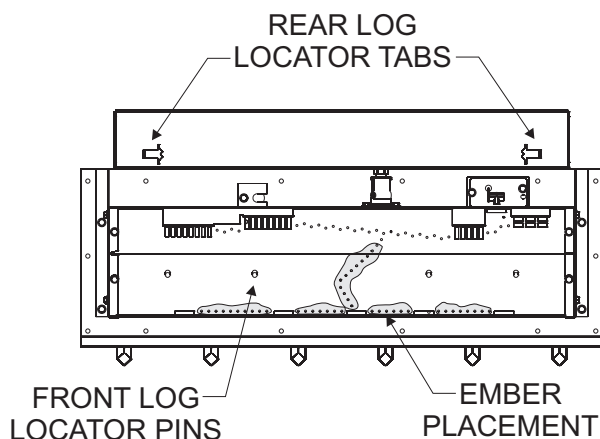
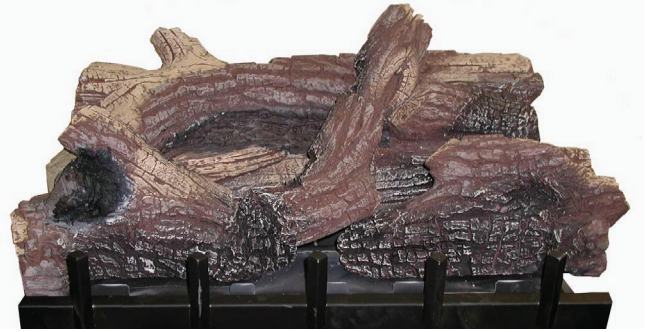
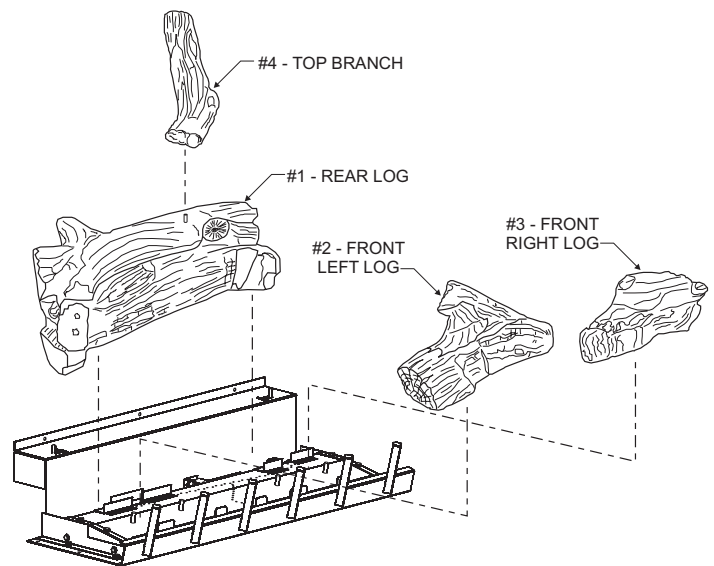

Figure 18
Figure 19
Figure 20
The positioning of logs is critical to safe and clean operation of this fireplace. Sooting and other problems may result if the logs are not properly and firmly positioned in the fireplace. Please refer to **Figure 18**, **Figure 19**, and **Figure 20** and corresponding WARNING, when completing the following log placement steps.
6. After all logs are properly positioned, place small "dime" size pieces of Rockwool lightly across the front round "blueflame" ports. Place the ember material (Rockwool pieces) side by side. Do not stack more than one layer of embers across the burner ports. **See Figure 18.**
Attention: Do not use **Figure 19** or **Figure 20** to order logs. Refer to parts view on page 37 and parts list on page 36 to order logs and/or ember material for your appropriate fireplace model.